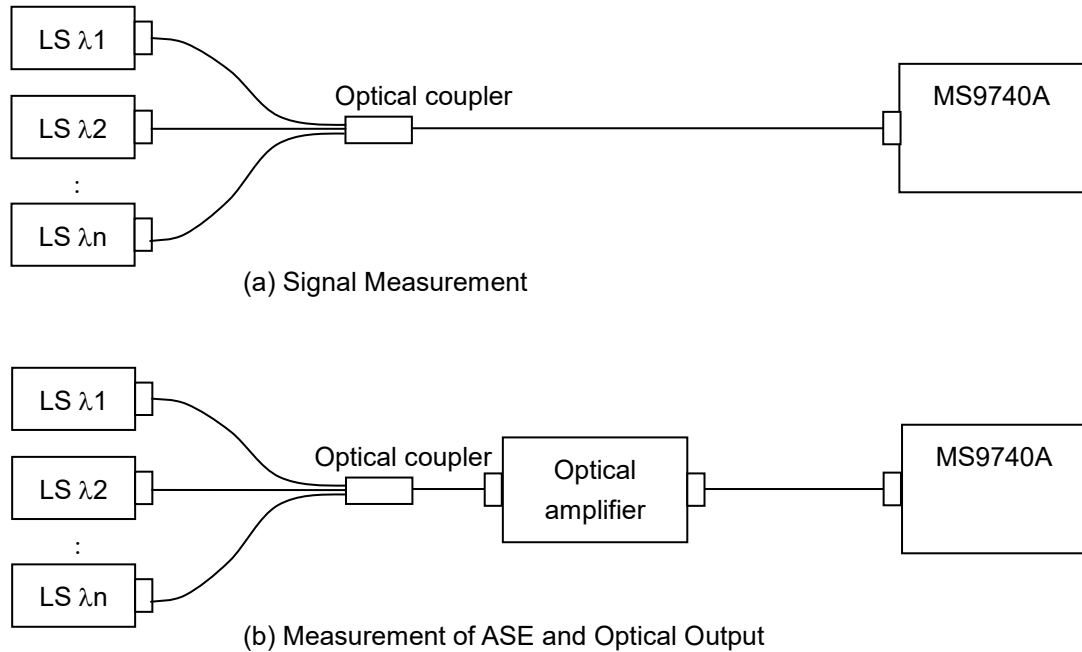

Figure 5.8.5-1 Measurement System When the Optical Input is Wavelength Multiplexed
7. Input the output light of the optical amplifier to this instrument as shown by the connection in Figure 5.8.5-1 (a).
14. Input the output light of the optical amplifier to this instrument as shown by the connection in Figure 5.8.5-1 (b).